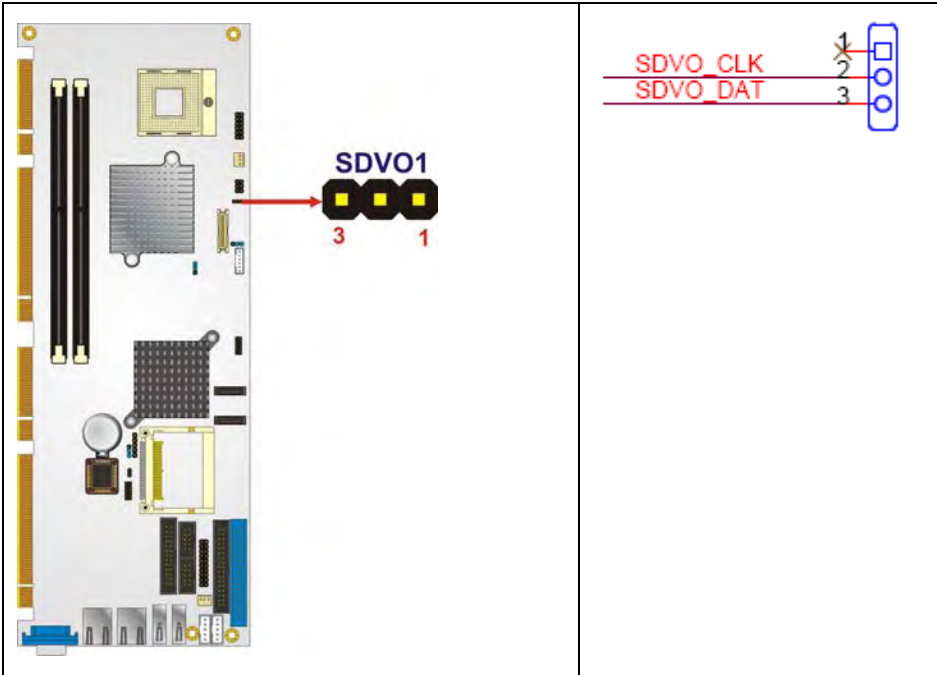

Figure 4-16: SDVO Connector Pinout Locations
- CN Location:** See Figure 4-16